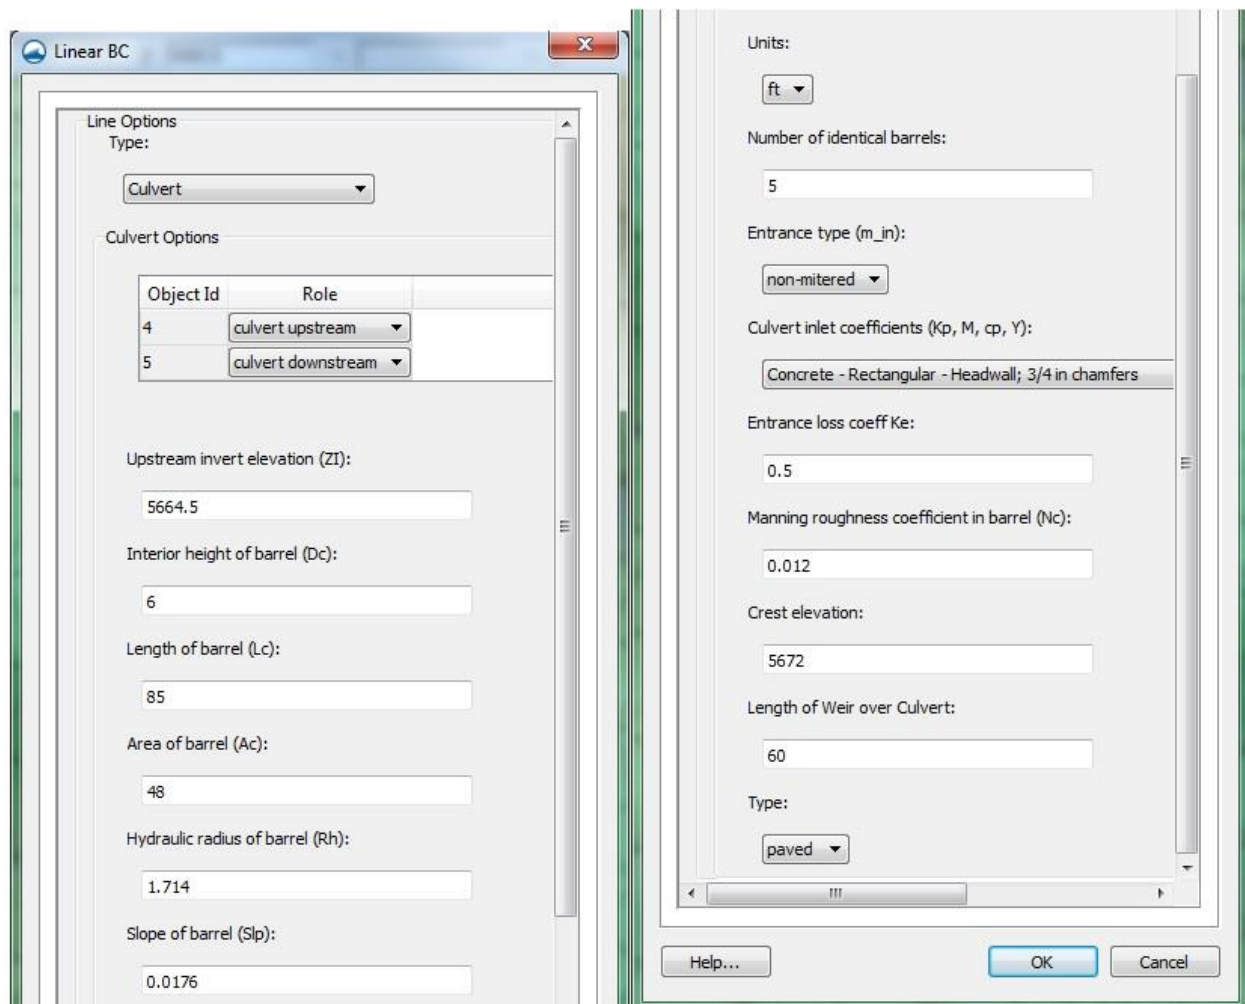

Figure 5 Culvert Parameters
6. Define the culvert and crossing attributes as found in Table 1. When done the dialog should resemble Figure 5.